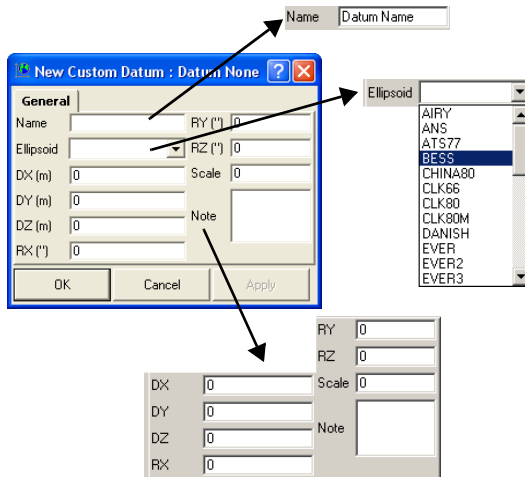

Figure 3-10. Enter Custom Datums Parameters
- In the **New Custom Datum** dialog box, enter the following information for the new projection (Figure 3-10).